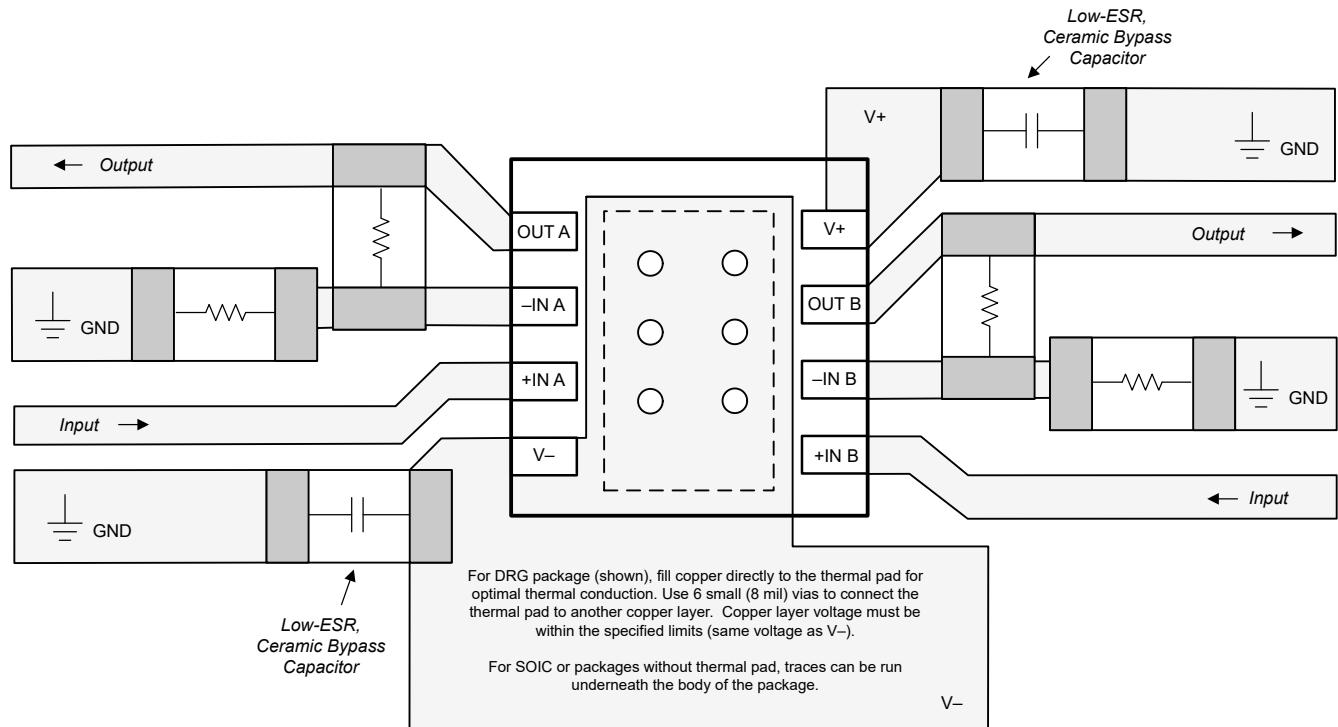

Figure 8-3. Dual Operational Amplifier Board Layout for Noninverting Configuration
- Place the external components as close to the device as possible. As illustrated in Figure 8-3, keeping RF and RG close to the inverting input minimizes parasitic capacitance.